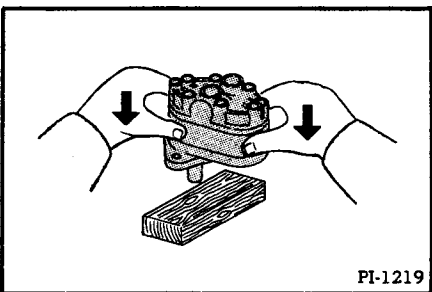

Fig. 144 Removing the Internal Parts
4. Remove the pump from the vise. Separate the pump plates by striking the shaft onto a wooden block (Figure 144).